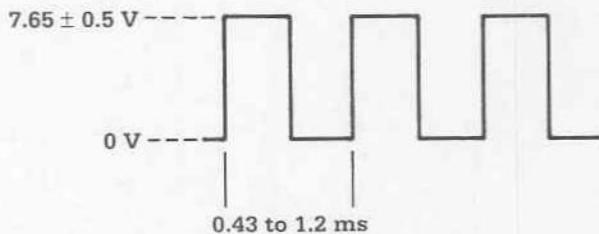

Figure 7-1
1. Connect an oscilloscope between TP-21 (U1 pin 10) and ground. Adjust the oscilloscope for 2 V/division vertical scale and 0.2 ms/division horizontal scale. There must be a square wave of approximately 850 to 2300 Hz (time period of 0.43 to 1.2 ms). The waveform should look like Figure 7-1. Adjust potentiometer RA if necessary to obtain the specified time period.